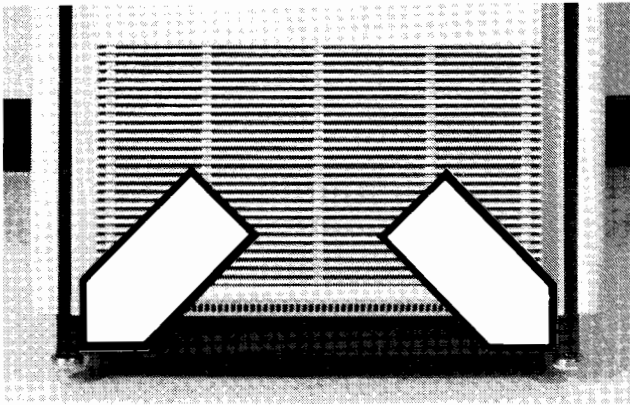

Figure 2-3. Leveler Feet
- b. Adjust the four leveler feet (figure 2-3) downward. When the leveler feet contact the floor use an adjustable wrench on the leveler nut and continue lowering the leveler feet. Raise the cabinet slightly, off its castors, keeping it level.
- d. Set the MAIN POWER breaker on the rear panel to OFF (0).